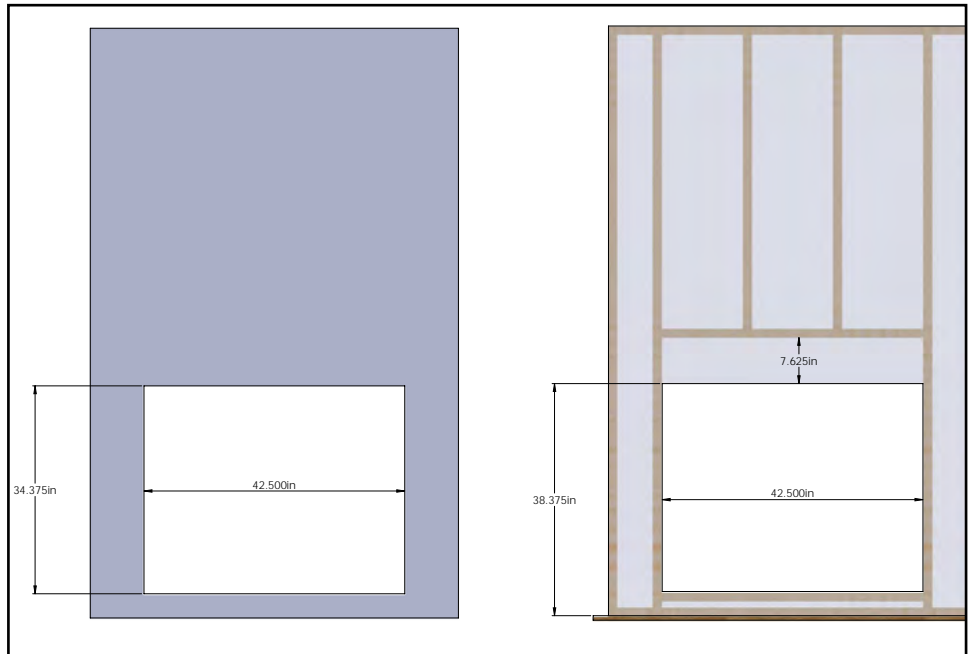

Figure 16.0.02:
Step 01: Install the facing material. See **Figure 16.0.02** for facing material dimensions. The facing material may be combustible.